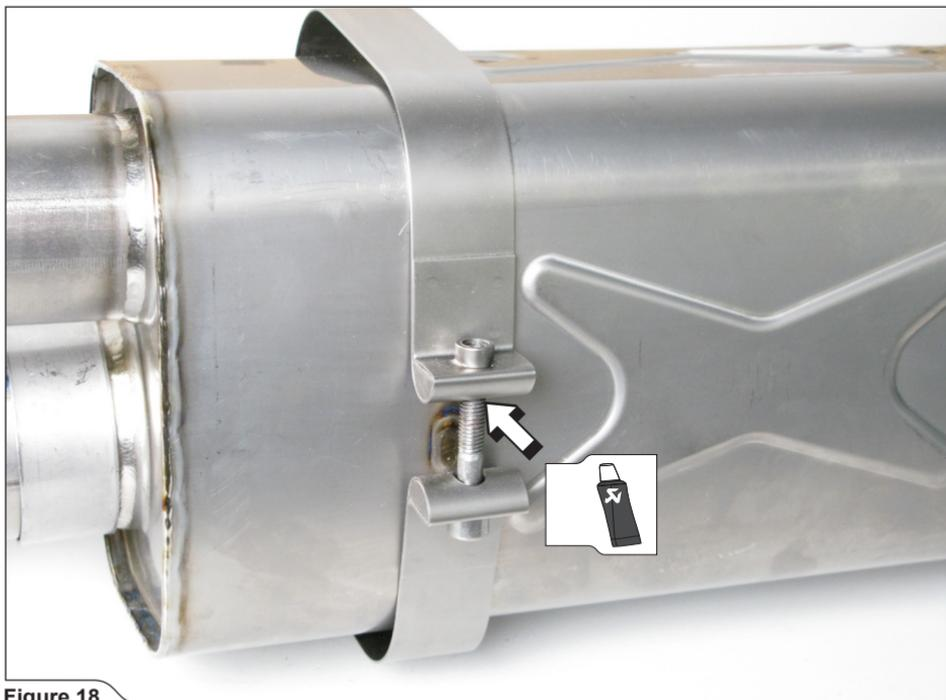

Figure 18
5. **For Slip-On and Slip-On with optional Link Pipes:** assemble both Akrapovič muffler clamps onto the muffler, as shown (Figure 18).